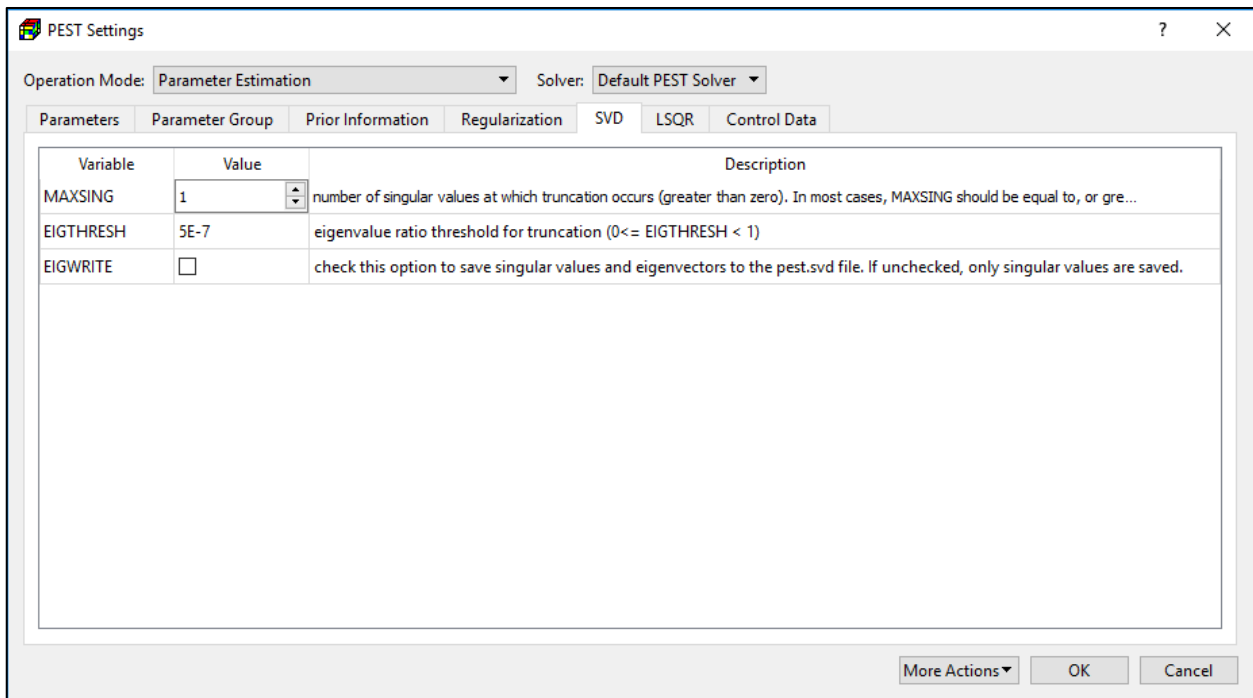

Figure 141. The SVD tab of the PEST Settings dialog box
8. **SVD Tab** (Figure 141): The variables of this tab are used only if the Solver is either *SVD Mode 1* or *SVD Mode 2*.